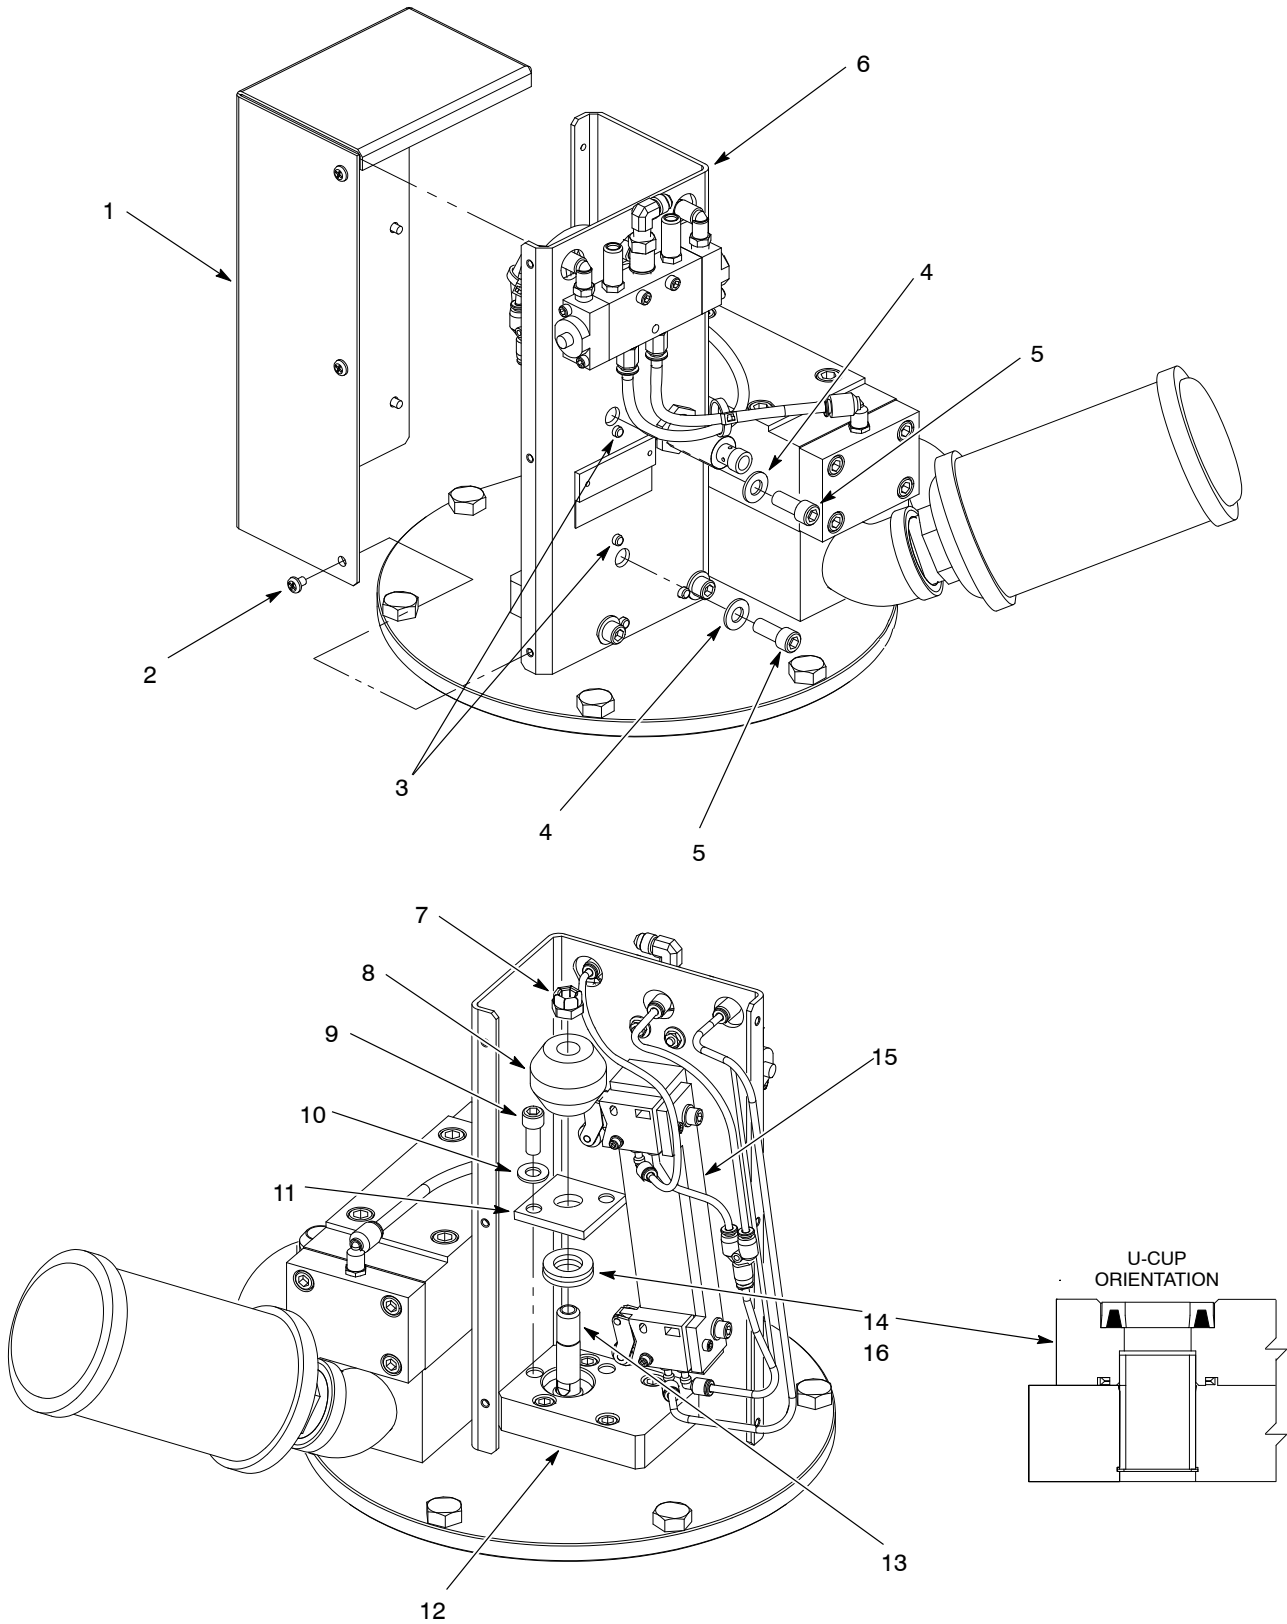

Figure 9 Replacing the Trip-Rod U-Cup
1. See Figure 9. Remove the screws (2) securing the cover (1) to the trip-rod assembly (6).
2. Remove the screws (5) and washers (4) securing the trip-lever mounting pad (15) to the trip-rod assembly (6).
3. Swing the trip-lever mounting pad (15) away from the seal retainer plate (11).
4. Place a wrench on the flats of the piston rod (13). Remove the nut (7) securing the trip-bar (8) to the piston rod.
5. Remove the screws (9) and washers (10) securing the seal retainer plate (11) to the trip-rod retainer (12).
1. See Figure 9. Lubricate the new U-cup (14) with TFE grease (16). Insert the U-cup into the trip-rod retainer (12) as shown.
2. Install the seal retainer plate (11) onto the trip-rod retainer (12) using the screws (9) and washers (10). Tighten the screws to 22–25 ft-lb (30–33 N•m).
3. Place a wrench on the flats of the piston rod (13). Install the trip-bar (8) to the piston rod using the nut (7). Tighten the nut securely.
- a. Make sure that the mounting pad pins (3) protrude through the trip-rod assembly (6) as shown.
- b. Secure the trip-lever mounting pad (15) to the trip-rod assembly using the screws (5) and washers (4). Tighten the screws to 22–25 ft-lb (30–33 N•m).
5. Install the cover (1) to the trip-rod assembly using the screws (2). Tighten the screws securely.